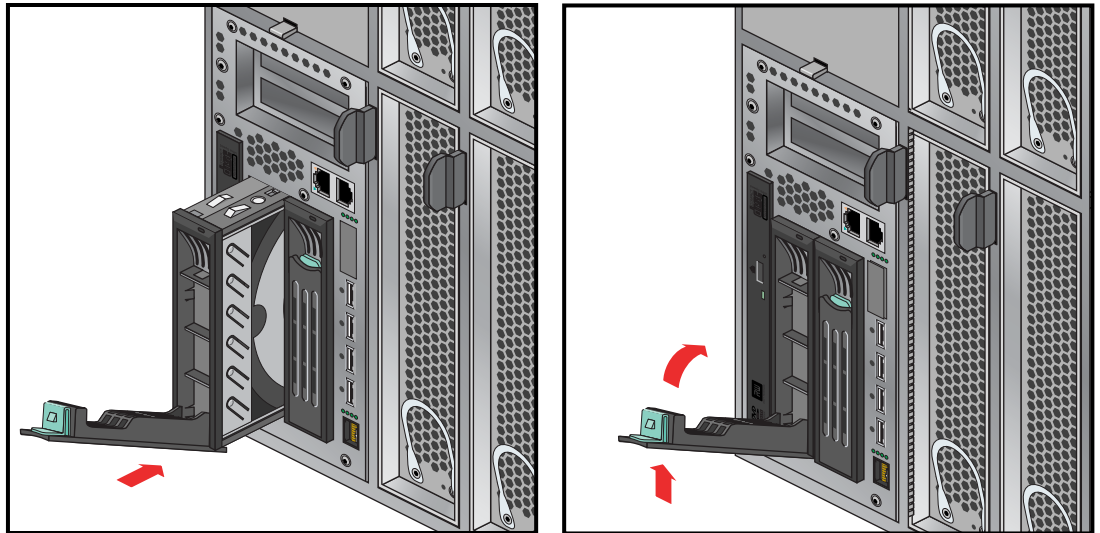

Figure 6-28 Replacing a Disk Drive
To install a disk drive, see Figure 6-28 and follow these steps:
1. Access the two disk drive bays (see panel 1 in Figure 6-28).